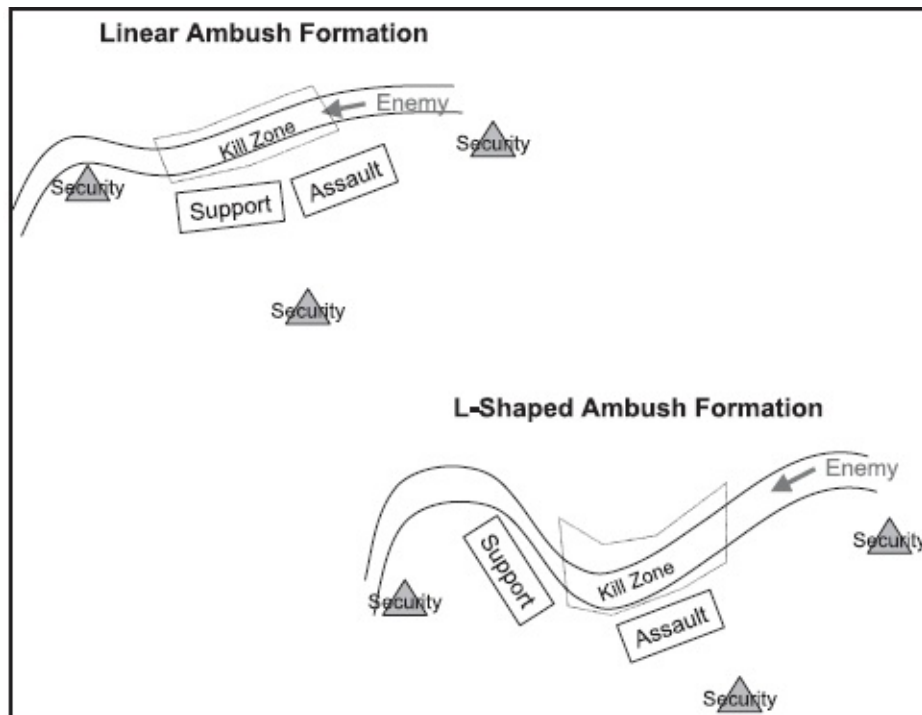

Figure 3-3. Ambush formations
(4) **Formations.** (Figure 3-3).